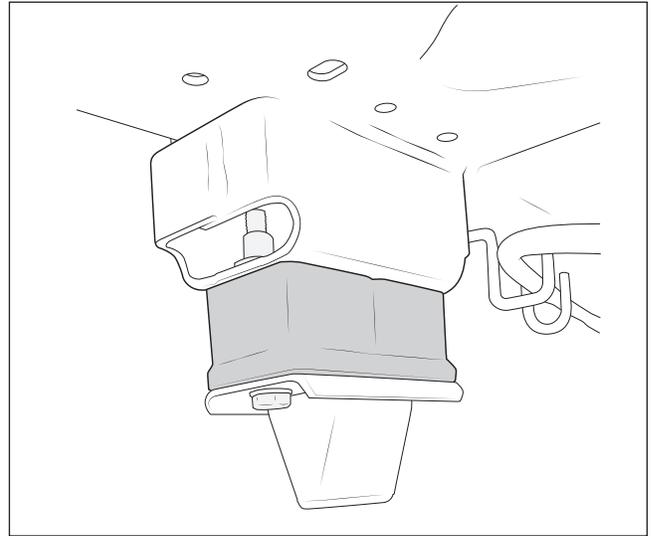

Figure 3
11. Install the AEV bump stop spacers with supplied hardware and torque to **40 lb-ft** (fig. 3).